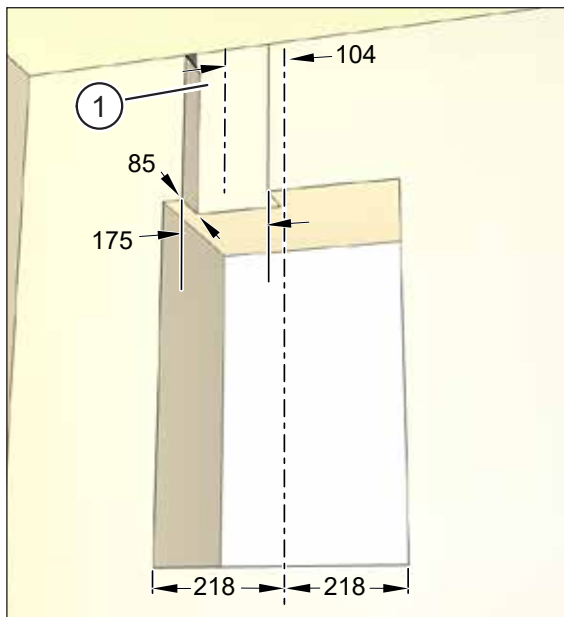

Fig. 14: Creating channels for flexible pipe connection on extract air side, dimensions in millimetres (schematic representation)
- Example: Flexible pipe connection **on the extract air side** (item 1 in Fig. 14)